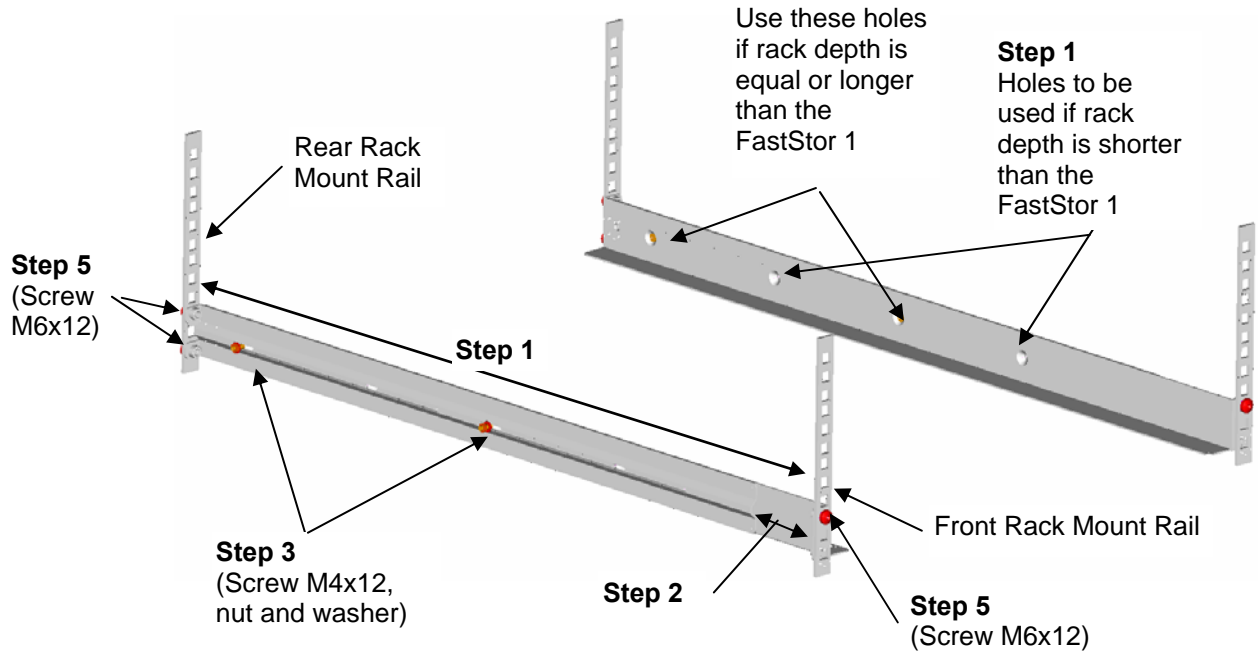

Figure 3.3 Mounting the Rack mounting kit to a rack
1. Measure the length between the rear rack mount rails and the front rack mount rails. If the measurement is shorter than the FastStor 1, move the two sets of screws M4x12, washers and nuts shown in Figure 3.3.